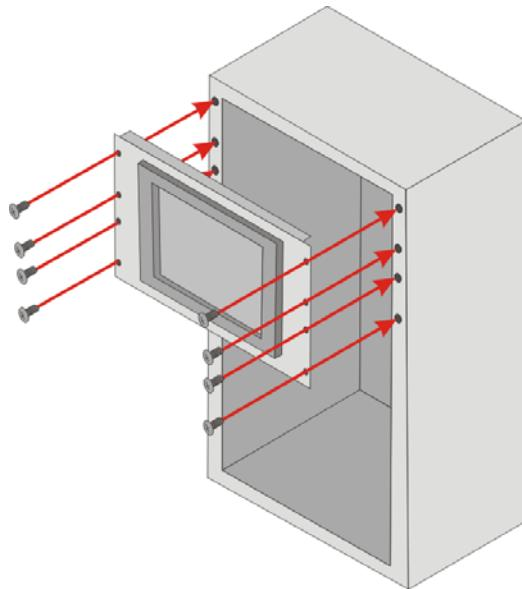

Figure 3-16: Install into a Rack/Cabinet
Step 4: Slide the PPC-F06B-BT with the attached rack/cabinet bracket into a rack or cabinet (**Figure 3-16**).
Step 5: Once the flat panel PC with the attached rack/cabinet bracket has been properly inserted into the rack or cabinet, secure the front of the rack/cabinet bracket to the front of the rack or cabinet (**Figure 3-16**).